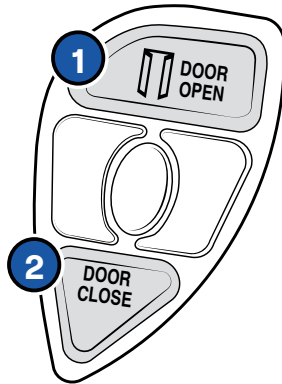

Figure 4 - Front door commands
- Press the "DOOR OPEN" pushbutton located on the steering wheel (Figure 4 no. 1).
- Press the "DOOR CLOSE" pushbutton (Figure 4 no. 2).